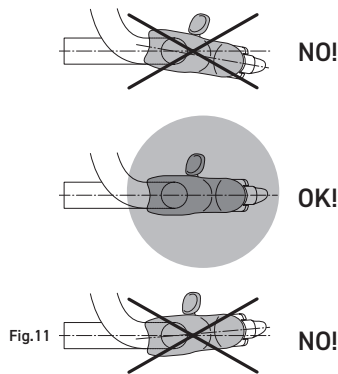

Fig.11
- Ergopower commands that are loose or not correctly positioned on the handlebar (Fig. 11)